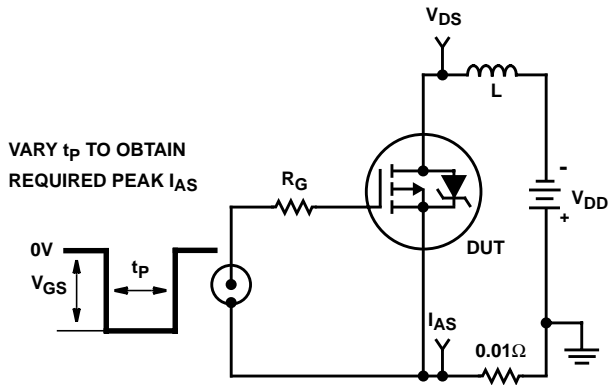

FIGURE 15. UNCLAMPED ENERGY TEST CIRCUIT
4.  $V_{DD} = 50\text{V}$ , starting  $T_J = 25^{\circ}\text{C}$ ,  $L = 9.8\text{mH}$ ,  $R_G = 25\Omega$ , peak  $I_{AS} = 11\text{A}$ . See Figures 15, 16.